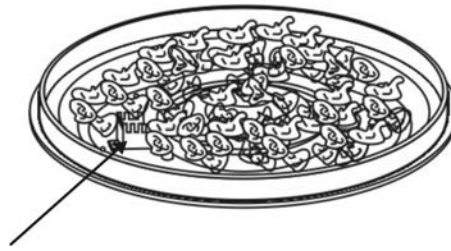

Figure 5
3. Remove cardboard cover from the ignition well as shown in Figure 5.